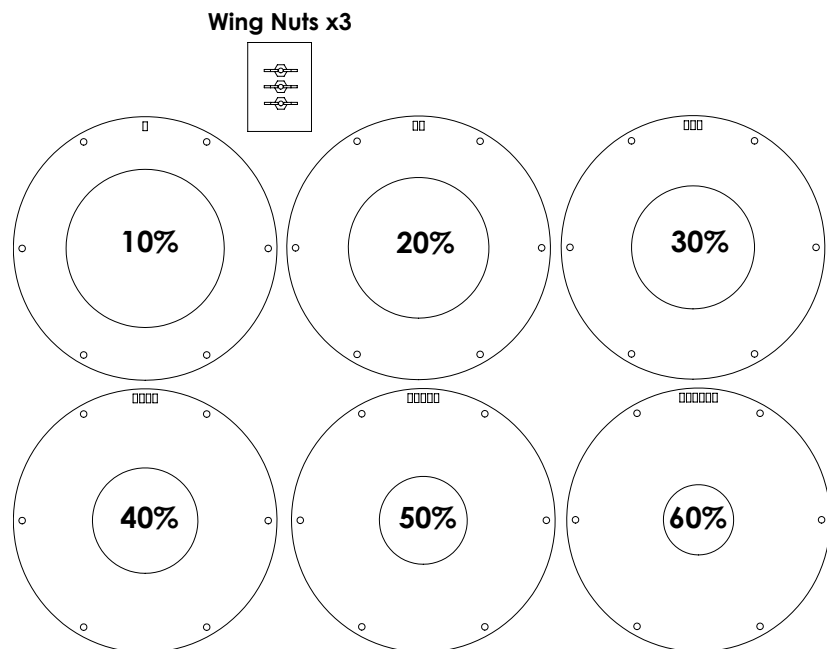

Figure 47. Restrictor Ring Kit
**Note:** There are six different restrictor sizes, they are marked with rectangular holes which coincide with the percentage of restriction (Figure 47).